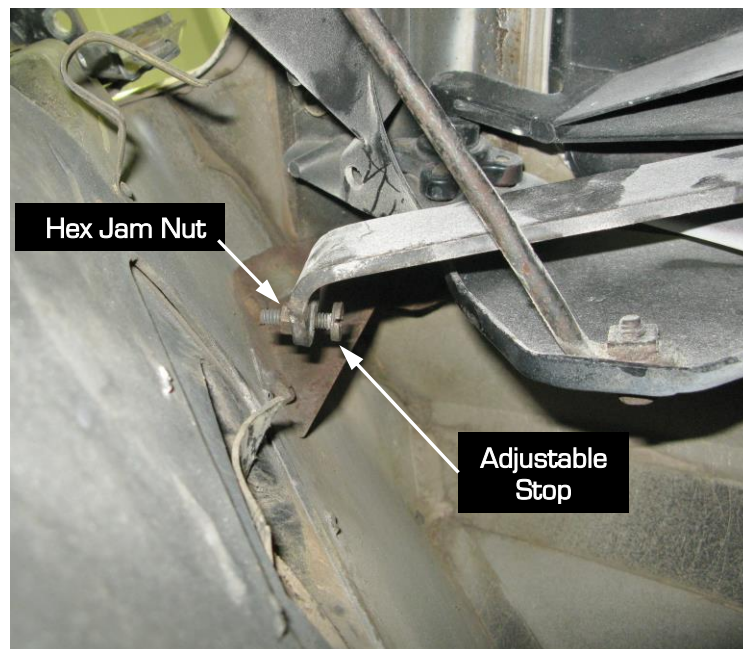
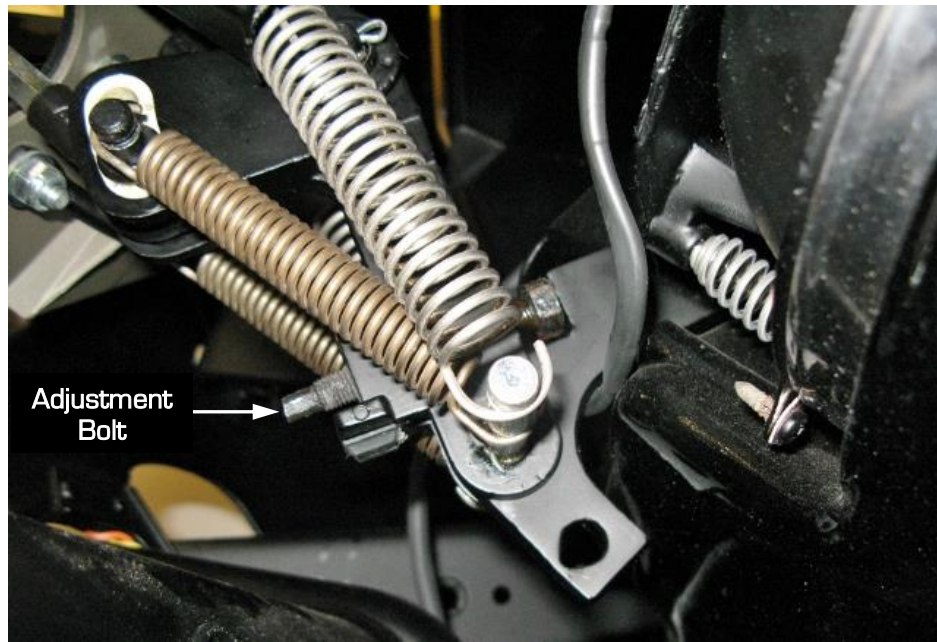

Figure 10 – Headlight Door Stop
Figure 19 – Adjustment Bolt for Closed Headlight Door
10. Remove the adjustable stop from the arm on the headlight door assembly. Move the hex jam nut from the front side to the back side of the bracket and re-install the stop (Figure 10). This will give you more adjustment once the round bumper pad is installed. The stop will need to be adjusted later when testing the opening height of the headlight door actuators.
16. Use a 7/32" wrench or socket to adjust the bolt to set the closed height of the headlight door so it is slightly below flush of the front end (Figure 19 on the next page).
42. Adjust the height of the stops on the doors as needed by adjusting the hex jam nut and moving the stop on the arm (Refer to Figure 10) for the opened height of the headlight door. That way the headlight doors will be open at the same height. Adjust the bolt on the door linkage as needed for the closed height of the doors (Refer to Figure 19).